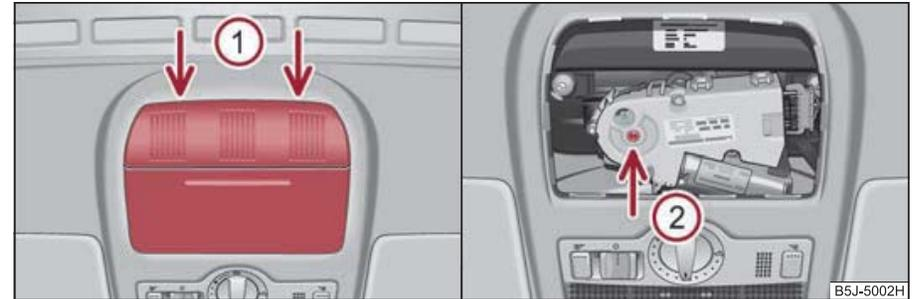

Fig. 34 Detail of the headliner: Points for positioning screwdriver/opening for positioning the key
- Position the flat blade of a screwdriver carefully against the rear edge of the cover for the electrical drive at the points of the arrows **(1)** ⇒ fig. 34 on the left.
- Insert an Allen key, Group 4, up to the stop into the opening at the point of the arrow **(2)** and close and/or open the sliding/tilting roof ⇒ fig. 34 on the right.